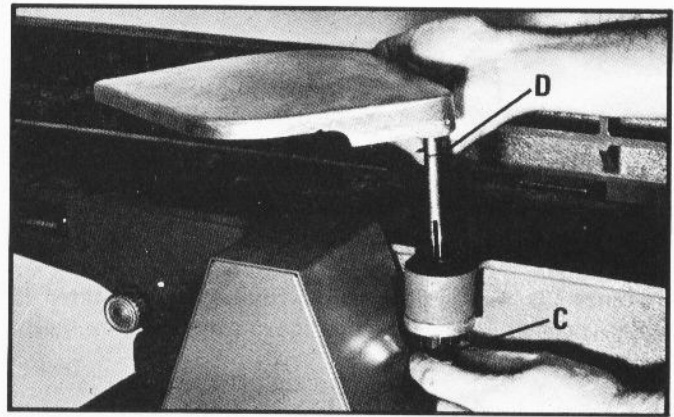

Fig. 8
Assemble the cutterhead rear guard assembly (A) Fig. 8, to the jointer, by inserting the post (B) of the guard assembly down through the hole in the rear table. The rear guard can be identified by the Circlip (D) assembled to the post (B) Fig. 8. A spring is supplied in the knob assembly (C) Fig. 8, that holds the rear guard over the cutterhead and against the fence. To provide spring tension turn the knob (C) to put tension on the spring before inserting the post (B) Fig. 8. When inserting the post (B) down through the hole in the rear table, make sure the spring enclosed in the knob (C), engages the slot provided in the end of the post (B). If spring tension is too much or not enough, remove the guard and post and adjust spring tension accordingly by rotating knob (C).